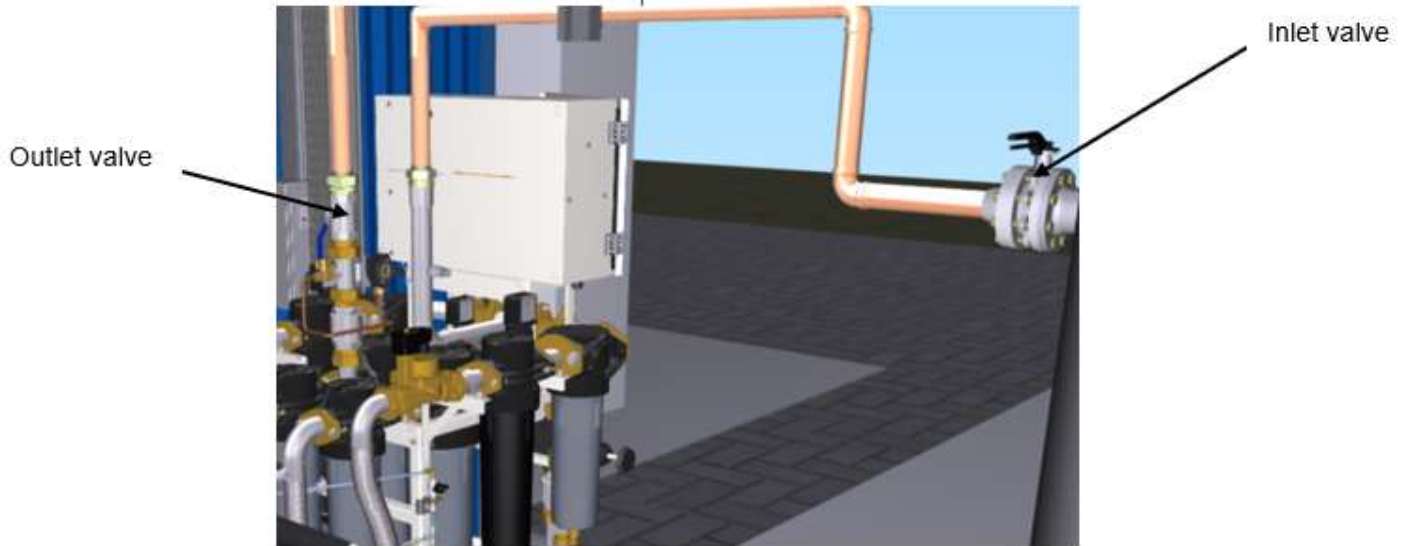

Figure 82 Outlet valve
5. Check that outlet valve of PMA unit is closed (refer to Figure 82, the ball valve handle position should be at horizontal to be closed).